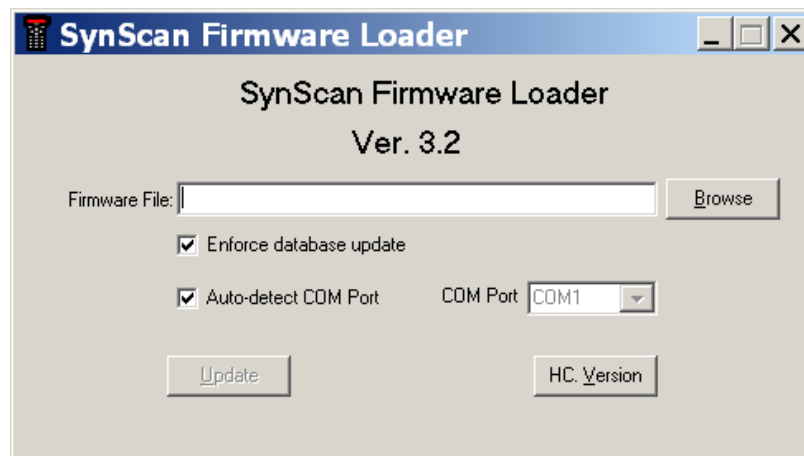

Fig. 10.3a
3. On the computer, run the SynScanFirmwareLoader.exe. An application window is show in Fig 10.3a.